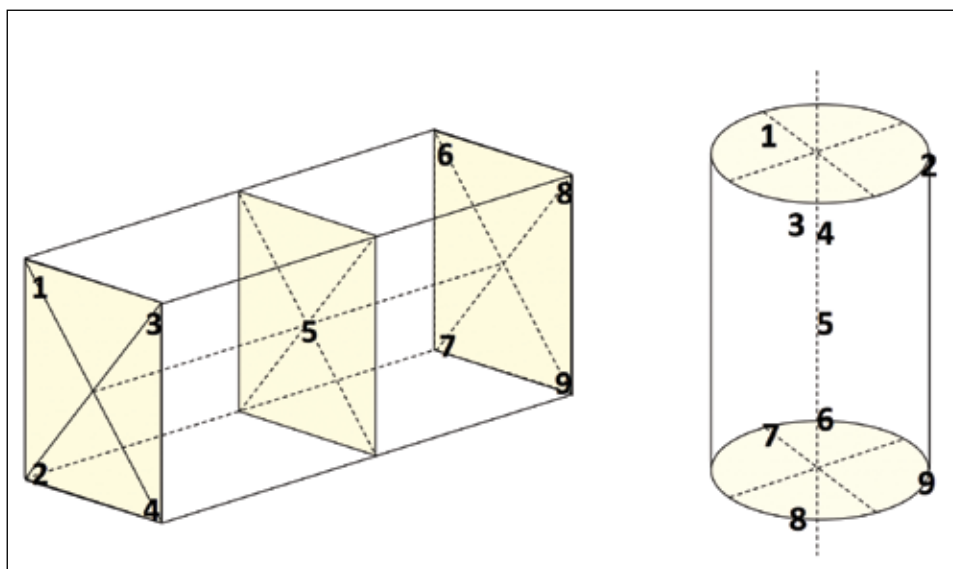

Figure 2: Necessary TUS sensor locations.
- Box: Four TUS sensors should be located at the four corners and one in the center (Figure 2)